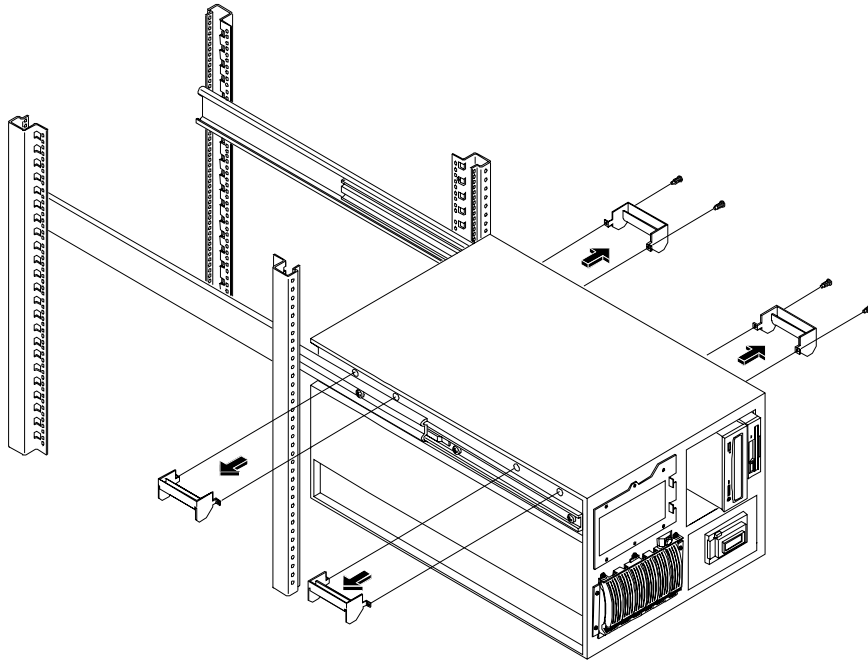

Figure 8-11. Removing Mounting Handles
9. Remove two screws from each handle and remove the all handles (see Figure 8-11). Save the handles and screws for future removal and reshipping of the NetServer.